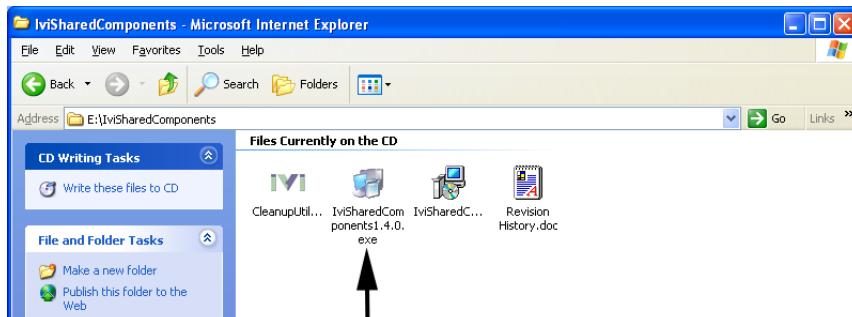

Fig.2-6 IVISharedComponents installation
- 13** Return to the browser window shown in Fig.2-6 and click the **Back** button.